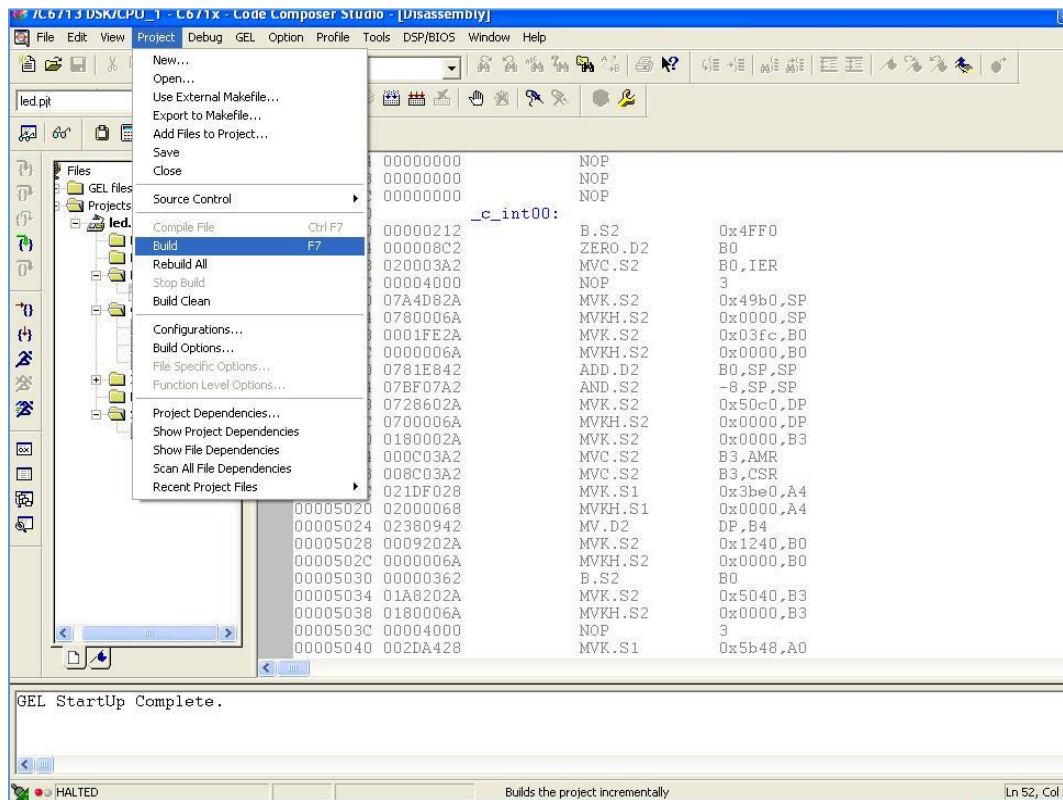

Figure 2.9
6. Build your project as shown in Figure 2.9.